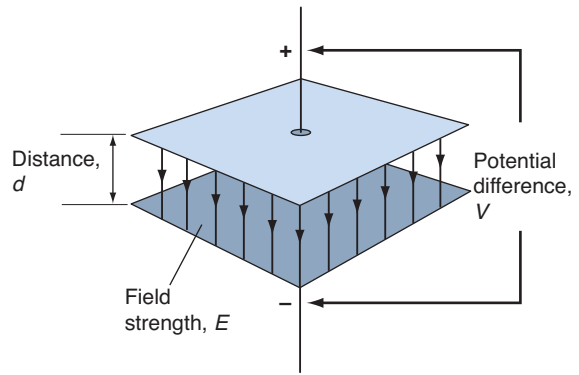

Figure 6.8 Electric field strength between two charged conducting surfaces
The strength of an electric field (E) is proportional to the applied potential difference, and inversely proportional to the distance between the two conducting surfaces (see Figure 6.8). The electric field strength (for an infinitely large pair of parallel plates) is given by the relationship: